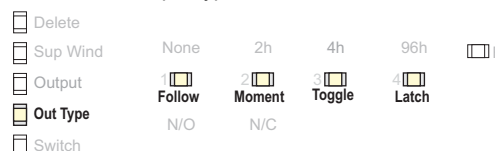

Figure 6 Select the output type
5. Use the advance button to select the output type (Fig. 6).